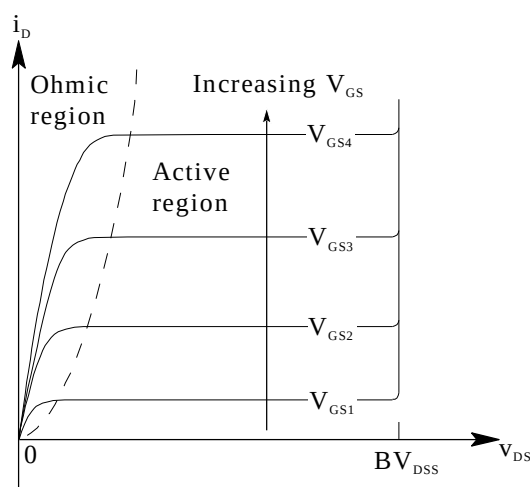

Figure 7 MOSFET Output Characteristic
- To keep the MOSFET operating in the Ohmic region of its output characteristic. See Figure 7. There is a maximum drain current for a corresponding gate-source voltage that a MOSFET will conduct. If the operating point at a given gate-source voltage goes above the Ohmic region “knee” in Figure 7, any further increase in drain current results in a significant rise in drain-source voltage (linear mode operation) and a consequent rise in conduction loss. If power dissipation is too high for too long the device may fail. The I_{DM} rating is set below the “knee” for typical gate drive voltages.